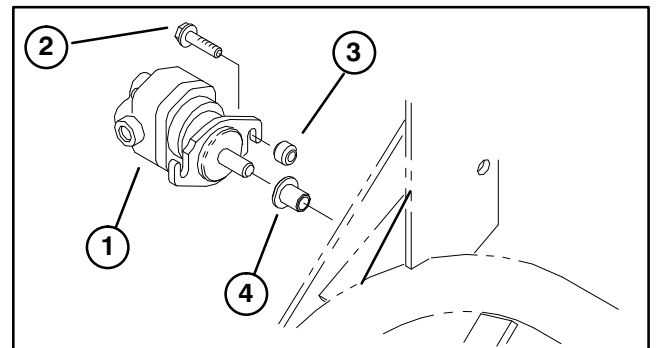

Figure 8
C. Using reel motor flange as template and positioning as shown in figure 8, locate, mark and drill a .344" dia. hole on scribed line.